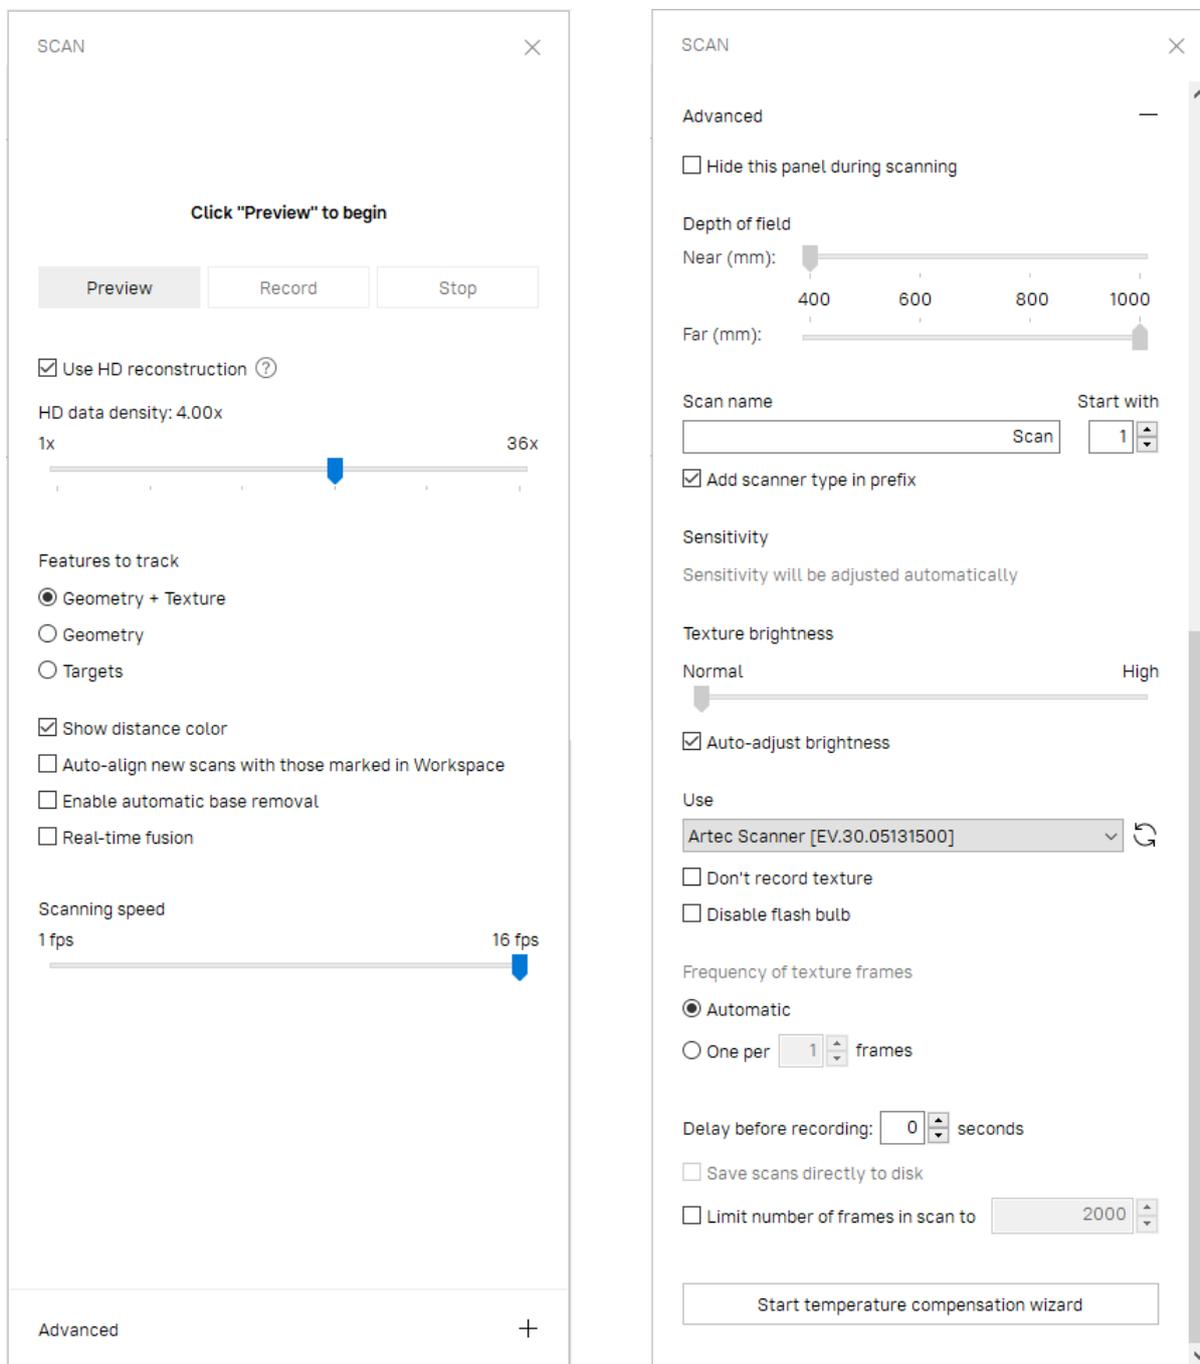

Figure 50: Scan panel: *Advanced* section hidden (on the left) and revealed (on the right).
1. Check the *One per ... frame* radio button (see Figure 50, right).